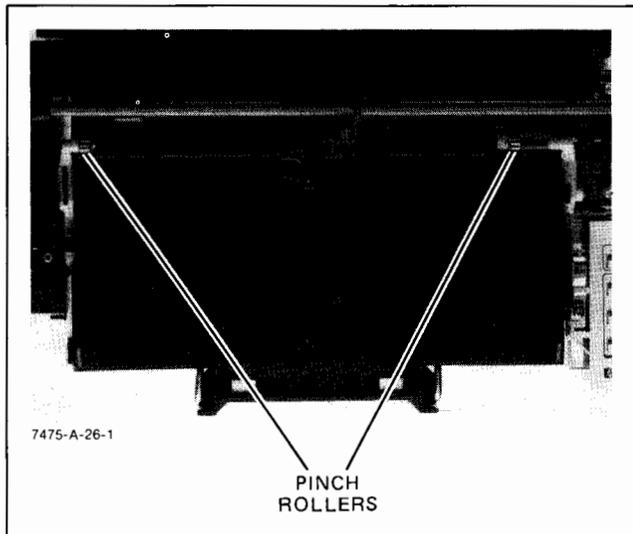

Figure 6-17. Pinch Rollers
- Remove the retaining ring that secures the pinch roller. See Figure 6-17.